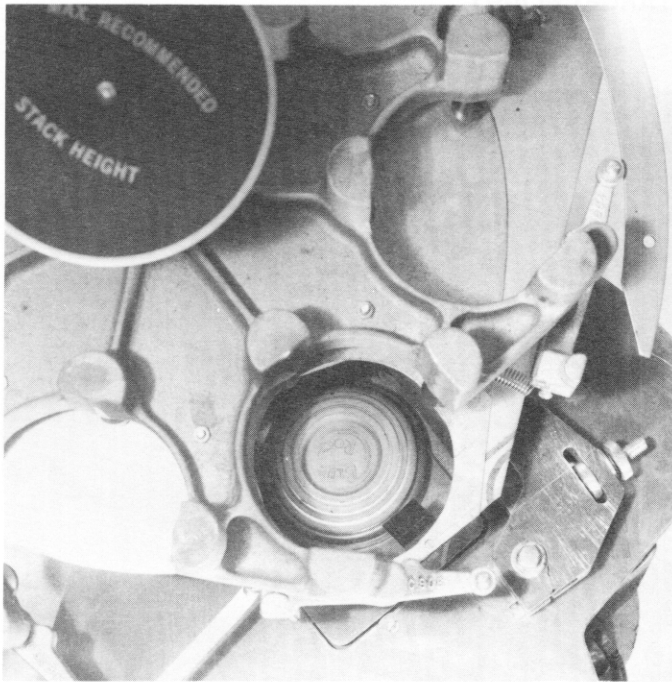

Figure 4 — Target Nest Mounted Correctly
4. Target nest brush should not interfere with targets dropping from magazine. Stand directly above magazine and observe through target drop hole. The target nest arm and brush mounting plate should not be protruding into path of target when it is dropped. The arm and mounting plate should be just out of view of the observer (see Figure 4).